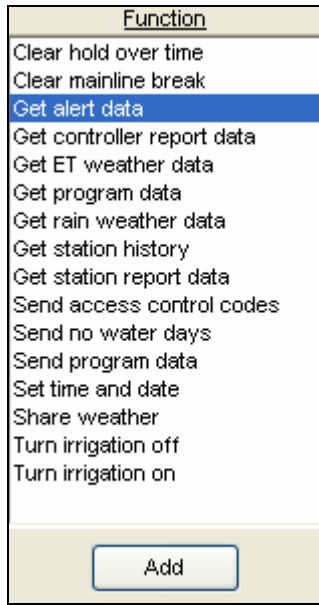

Figure 11.0.6
4. Next you will have to decide which functions that you want to take place under this task. Select one function at a time from the “Functions” window by clicking on it (Figure 11.0.6).